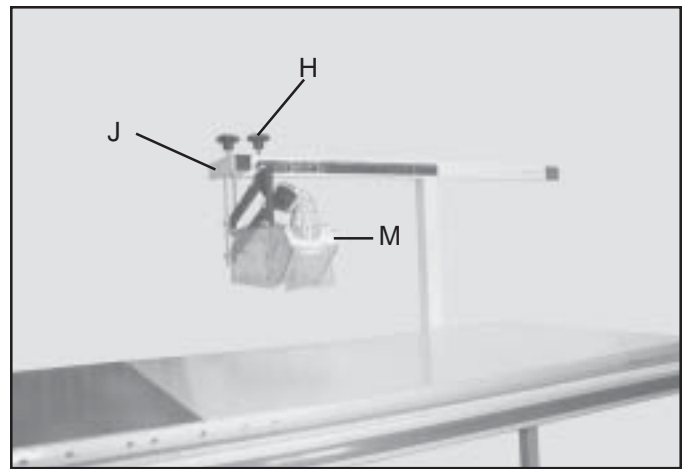

Fig.28
26. Left to right movement of the blade guard basket (M) Fig. 28, is obtained by loosening locking knob (H) and sliding the T-Arm (J) to the left or right. Always tighten knob (H) after adjustment is completed.